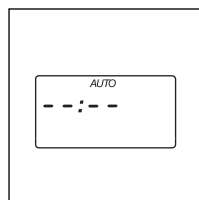

Fig.6
- When set in this way the radiator will automatically switch on at the set time for the designated time period and automatically maintain the preset comfort temperature. To cancel a preset programme, press the timer button **A** or **B** once and then press the hour button until the display shows “--:--” (fig.6). To operate the appliance without using the timer press ON/MODE button. The yellow timer ON light will go off.